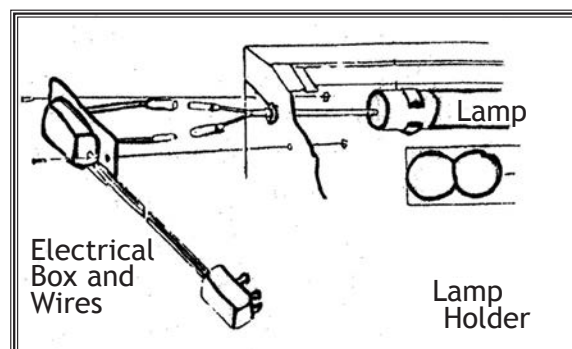

Figure 2. Lamp and electrical installation.
3. Install the two lamp holders with the two screws, and then install the electrical box and wires as shown in **Figure 2**.